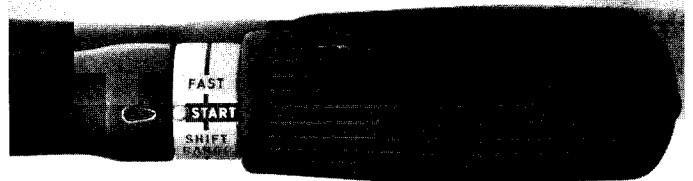

Figure 6. "Start" Position Adjustment
1. With engine running in neutral gear, turn twist grip to obtain 2400 to 2700 RPM. At this point, "Start" position on twist grip should align with indicator arrow on tiller handle. (Figure 6)